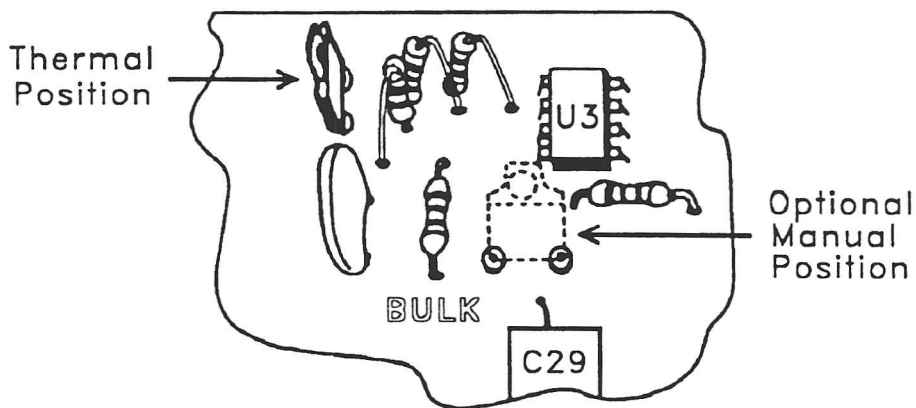

Figure 3.3.4 Auto/Manual Mode Selector (Auto position)
Dual input and output hybrid amplifiers in the (forward) module amplify the RF signal, allowing for a selection of 28, 32, or 36 dB gain. The gain control circuitry and the slope control circuitry provide Thermal (Auto) or Manual gain and slope control. (The Auto or Manual option is determined by the position of a blue, plug-in Mode Selector Plug. Reference Figure 3.3.4.) The gain control circuitry consists of a PIN diode gain control with an operational amplifier. The slope control circuitry consists of a PIN diode slope control with an operational amplifier. A diode reference is used for Thermal (Auto) compensation. The gain and slope control provide compensation of  $\pm 0.5$  dB over the temperature range of  $-20^{\circ}$  to  $+120^{\circ}$  F for a cable length of 14 dB.
9. Verify that the blue Auto/Manual Mode Selector Plug is in the Thermal (Auto) position. Reference Figure 3.3.4.
1. The TxLET Module is factory-supplied with the blue Auto/Manual Mode Selector Plug in the Thermal (Auto) position. Move the Auto/Manual Mode Selector Plug to the Manual position. Reference Figure 3.3.4.